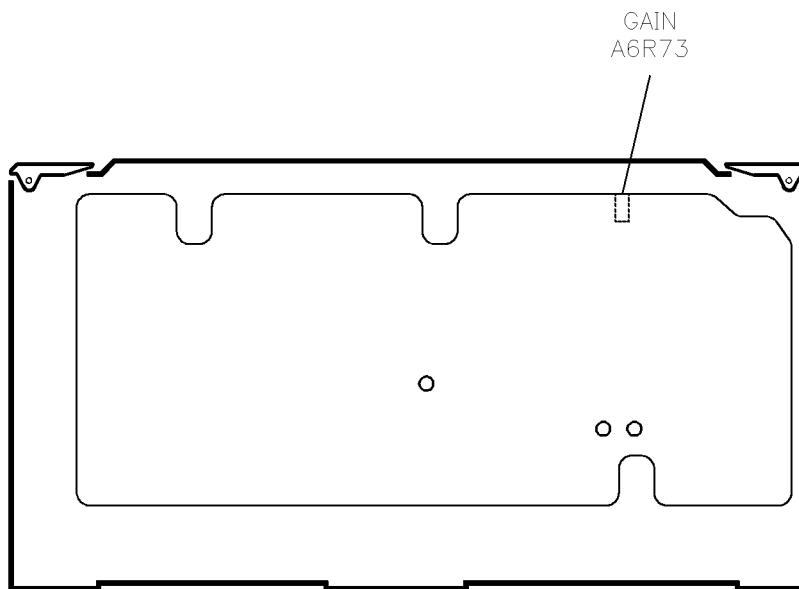

Figure 3-6. IF Gain Adjustment Location
14. Adjust A6R73 (see Figure 3-6) to center the “needle” on the display.